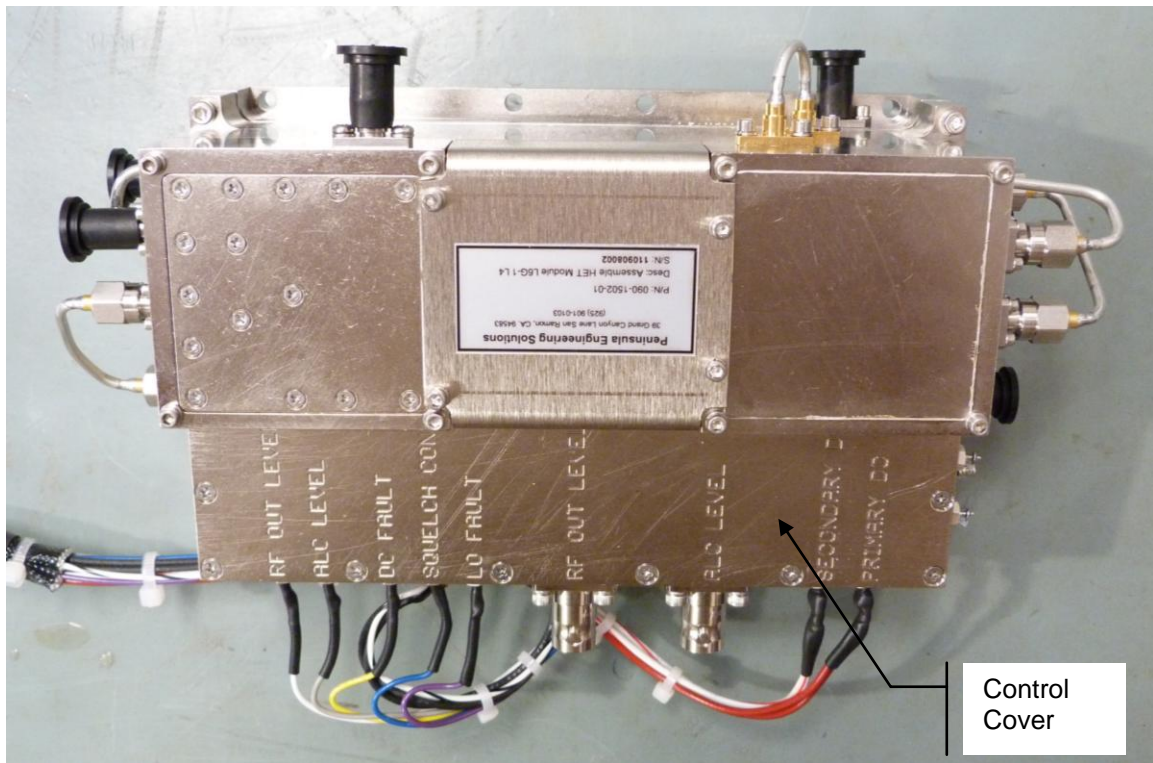

Figure 22 Heterodyne RF Module
2. Locate the Heterodyne RF Module inside the unit enclosure. See Figure 22.